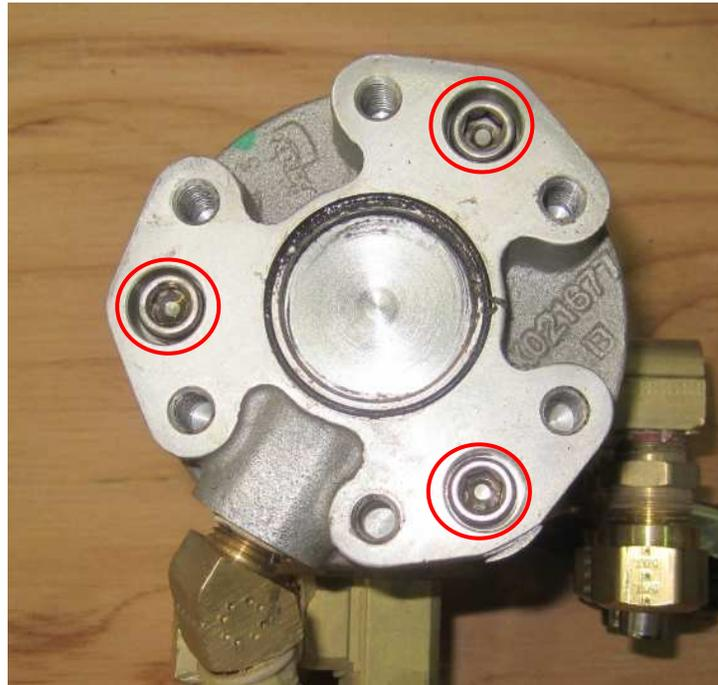
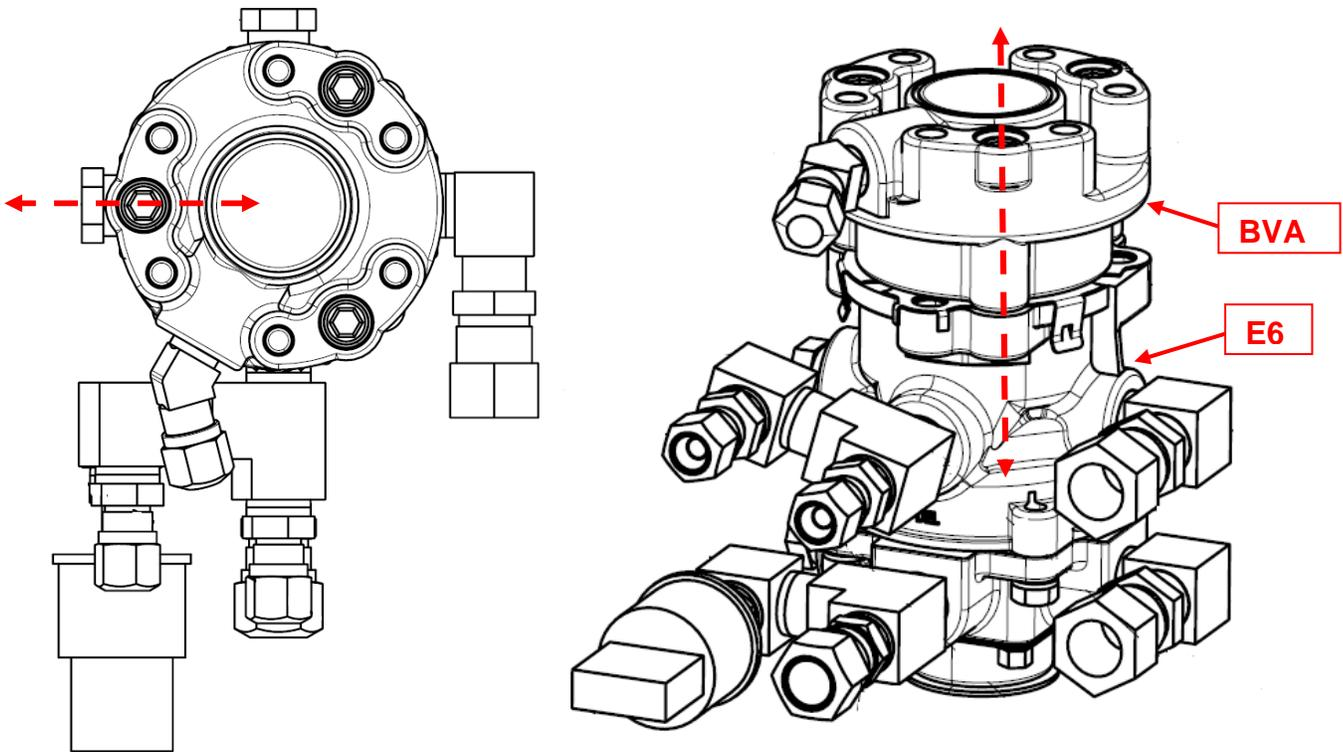

Figure 7: Remove BVA Valve
Figure 8: Replace BVA Valve
20. Remove three allen bolts which attach the BVA valve to the E6 treadle valve, see Figure 7. Retain the allen bolts for reuse.
23. Align a new BVA valve (PN: 477422) with the E6 valve as shown in Figure 8. Attach the BVA valve using the 3 allen bolts previously removed in Step 20, see Figure 7.